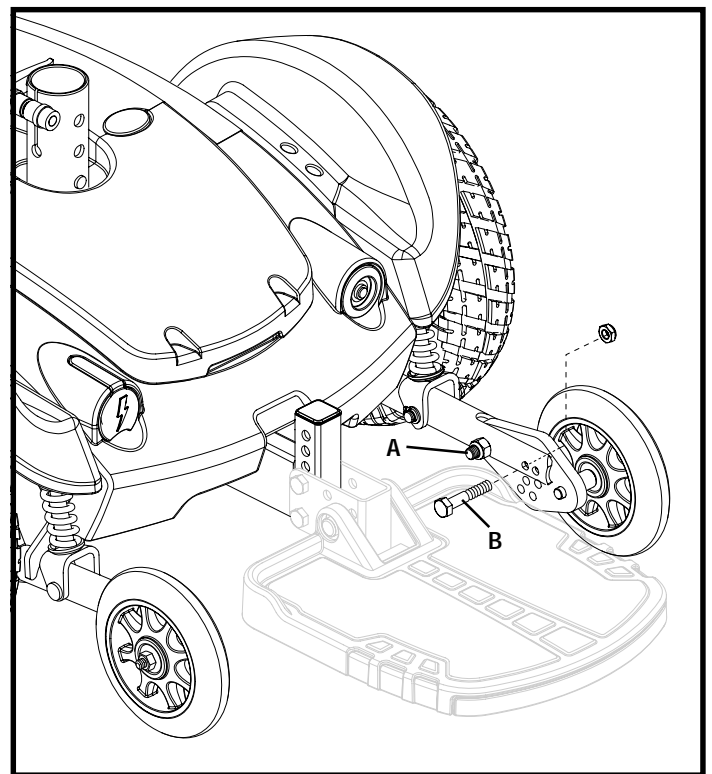

Figure 18. Anti-Tip Wheel Adjustment
1. Loosen nut A. See figure 18.